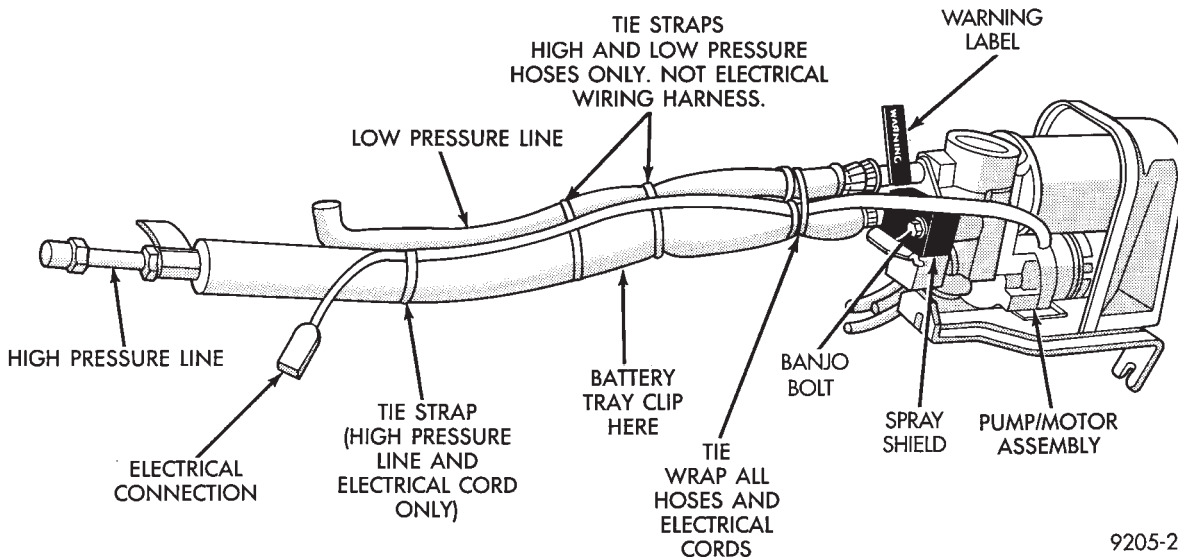

Fig. 6 Positioning Tie Straps
BRAKE FLUID PRESSURE AND RETURN HOSES (FIG. 6)
(1) Remove the pump/motor assembly from its mounting bracket, see Pump/Motor Service.
(2) Cut the 4 tie straps that secure the high and low pressure hoses and pump/motor assembly wiring harness together Fig. 6.
(3) Remove the banjo bolt and spray shield from the pump/motor assembly Fig. 6.
(4) Remove the high and low pressure hose assembly from the pump/motor assembly Fig. 6.
(1) The rubber O-Rings used on the high and low pressure hose connections to the pump/motor assembly. Should be lubricated with clean brake fluid before connecting hoses to pump/motor assembly.
(2) Position high and low pressure hoses and spray shield on the pump/motor assembly (Fig. 6). Then install the banjo bolt and torque to 14 N•m (120 in.lbs.)
(3) Carefully route wiring harness along the side of the high and low pressure hose assembly Fig. 6.
(4) Install the 4 tie straps around the hose assembly and wiring harness per the sequence and locations shown in (Fig. 6).
(5) Install the pump/motor assembly back on mounting bracket, See Pump/Motor Service.
(6) Turn the ignition switch to the RUN position. This will turn on the pump/motor assembly to charge the high pressure system.